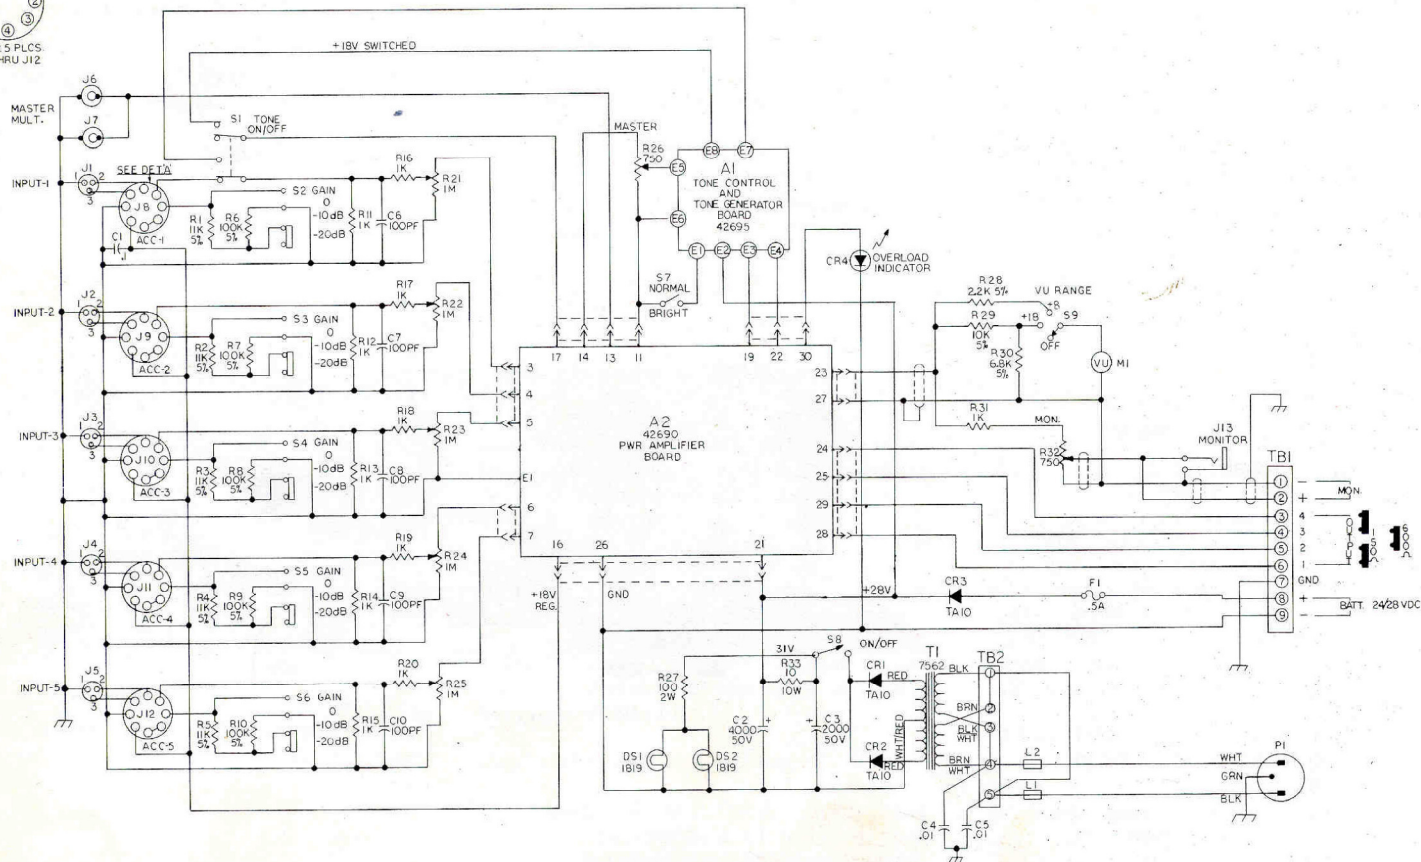

Figure 10. Schematic (3D276-6), 1592B Mixer/Amplifier
Step 5. Solder leads to replacement (or repaired) PCB in accordance with tagging of Step 4. If necessary, refer to schematic diagram of Figure 10.